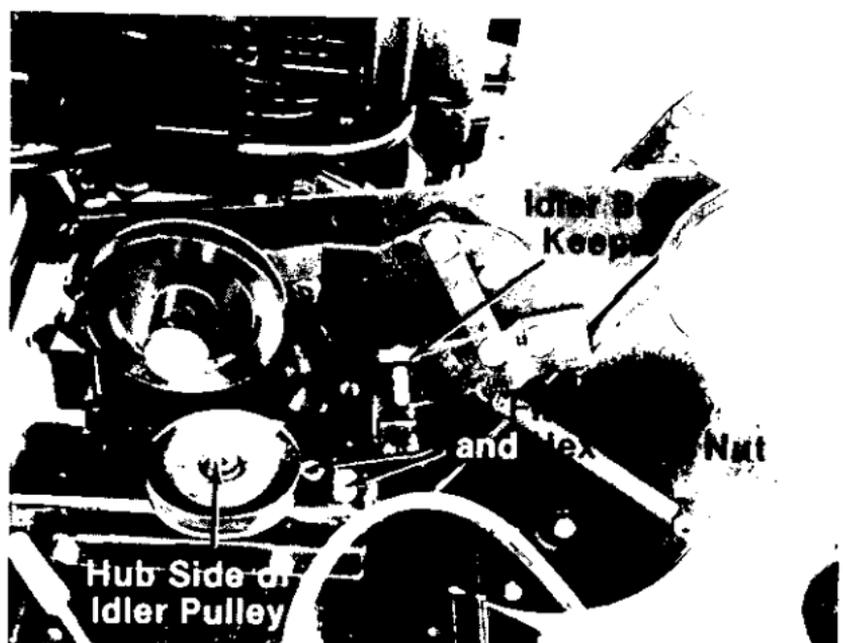

FIGURE 24.
- Using two 9/16" wrenches, remove the hex lock nut holding the idler pulley and idler belt keeper. Slip off the belt. See figure 24.
- Upon reassembly of new belt, the idler pulley must be installed with the hub side towards the chain case. See figure 24.